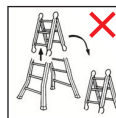

Fig. 38
- Do not use the telescopic parts separately detached from each other. (Fig. 38, 39)